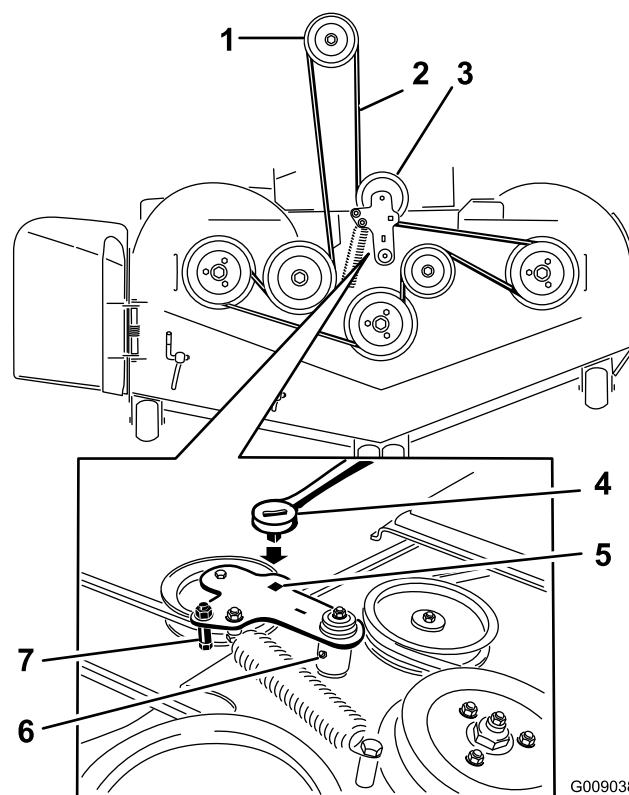

Figure 81
5. Use a ratchet in the square hole in the idler arm to remove tension on the idler spring (Figure 81).
7. Remove the belt guide on the spring-loaded idler arm shown in Figure 81.
9. Install the new belt around the mower pulleys and the clutch pulley under the engine (Figure 81).
10. Install the belt guide on the idler arm shown in Figure 81.
11. Using the ratchet in the square hole, install the idler spring (Figure 81).